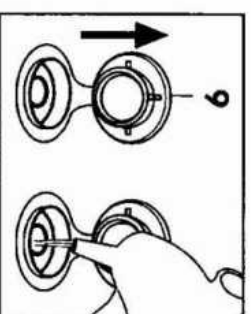

Fig. 23
- Remove the fill cap (9) (Fig. 23). Fill boiler with the contents of a 10 ml bottle, mix in 0.5 litres of water and operate as per normal.